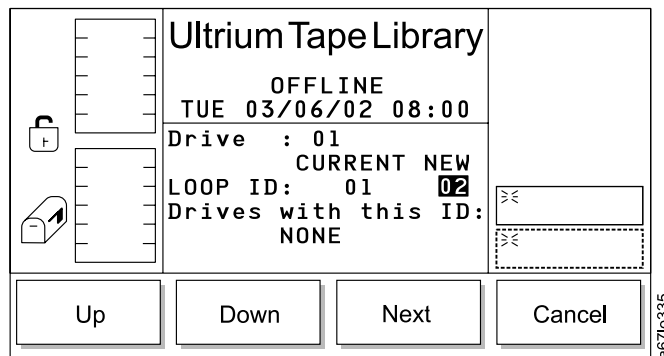

Figure 58. Loop ID Dialog
1. Press the button below the **Next** softkey. The Loop ID Dialog displays (see Figure 58).